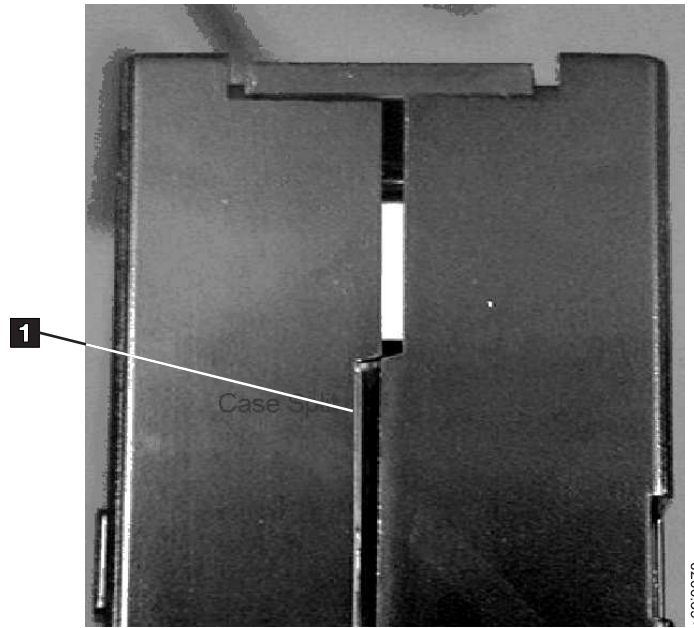
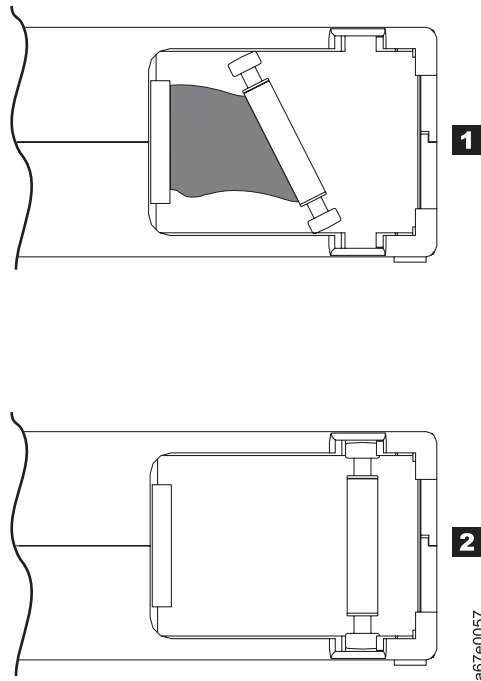

Figure 119. Checking for gaps in the seams of a cartridge
Figure 120. Leader pin in the incorrect and correct positions. The cartridge door is open and the leader pin is visible inside the cartridge.
- Inspect the rear of the cartridge (the part that loads first into the tape load compartment) and ensure that there are no gaps in the seam of the cartridge case (see **1** in Figure 119 on page 117 and **4** in Figure 120 on page 119). If there are gaps in the seam (see Figure 119 on page 117), the leader pin might be dislodged. Go to “Repositioning or reattaching a leader pin” on page 118.
- Check that the leader pin is properly seated (see **2** in Figure 120 on page 119).
A leader pin that is improperly seated inside a cartridge can interfere with the operation of the drive. Figure 120 on page 119 shows a leader pin in the incorrect **1** and correct **2** positions.